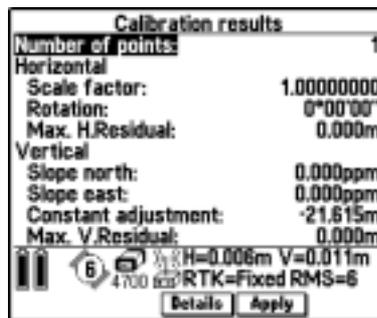

Figure 13.3 Calibration results screen
- Press to see the horizontal and vertical shifts that the calibration has calculated. The *Calibration results* screen appears, as shown in Figure 13.3.